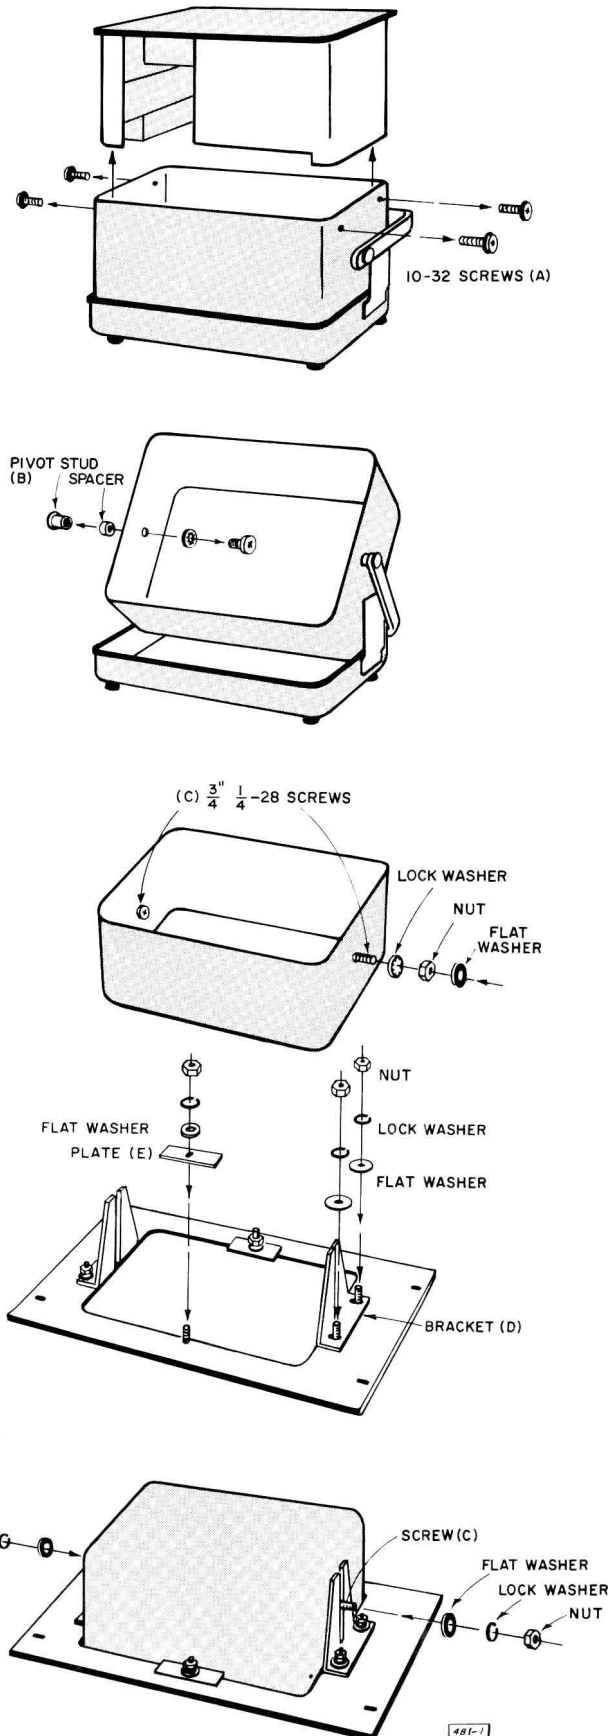

Figure 2-2. Procedure to rack mount a portable model.
2.2.1 PORTABLE TO RACK MOUNT CONVERSION. (Figure 2-2).